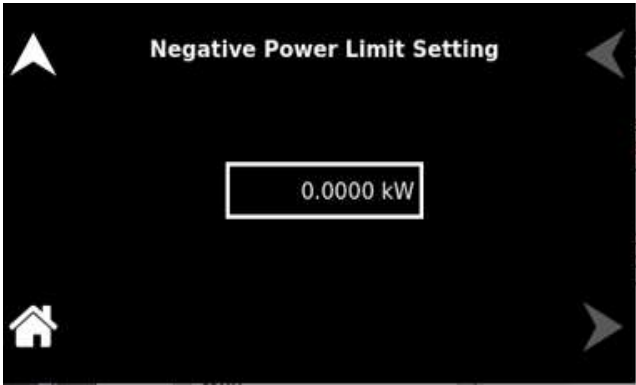

Figure 8-31. Negative Power limit setting screen
**Neg. Power Limit** User can set the Negative power Limit value which functions as a trip limit. Refer to Figure 8-31.